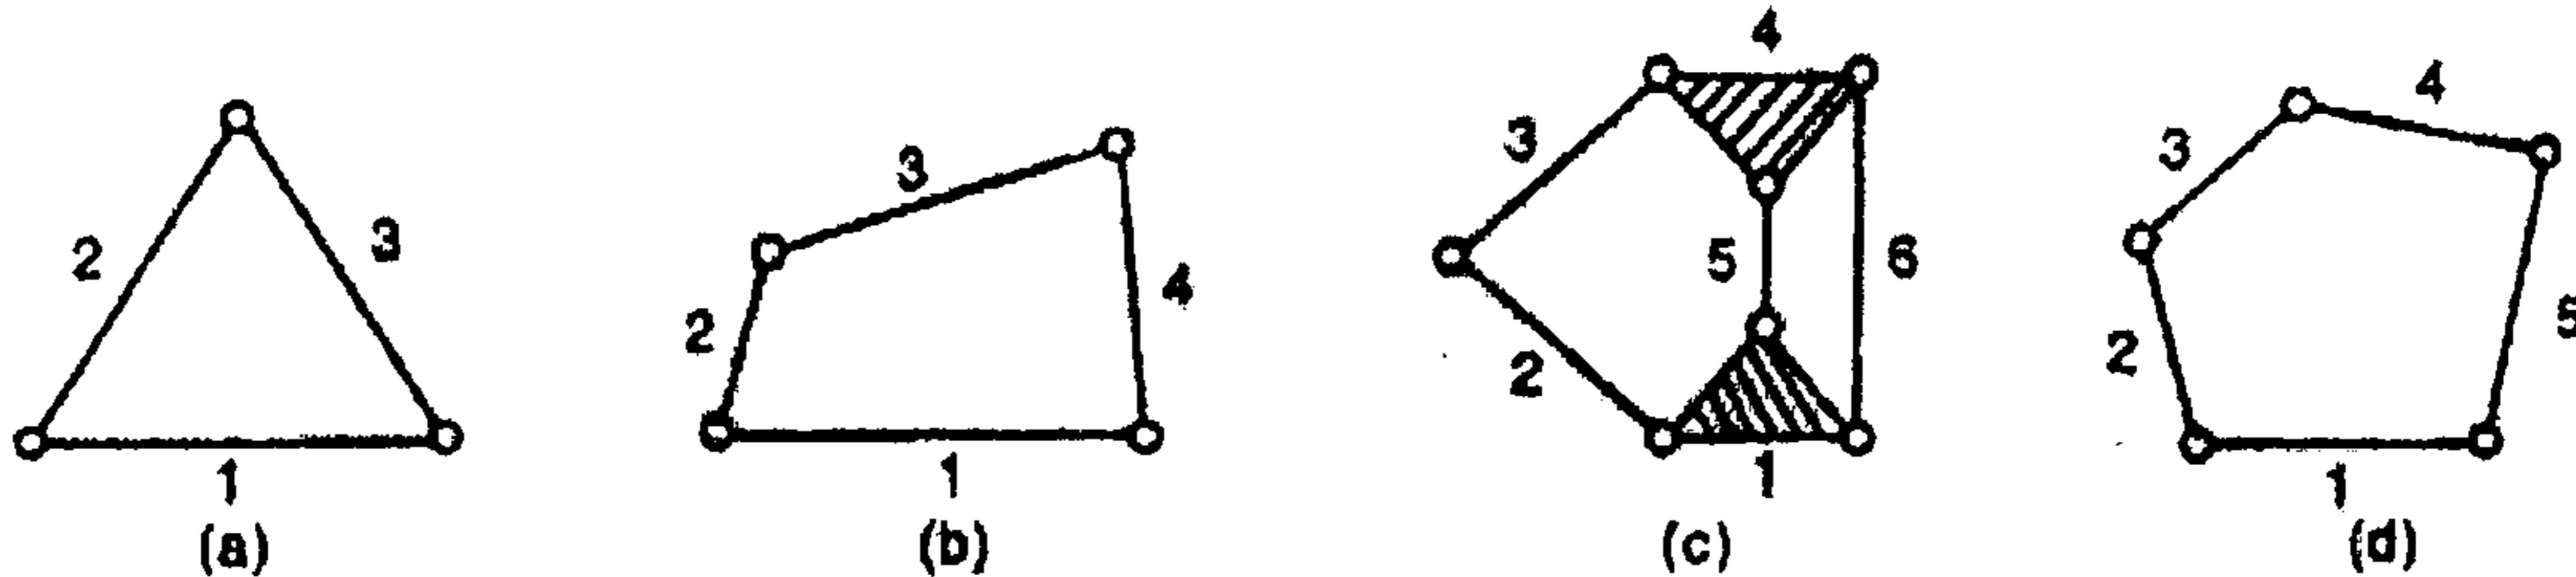

Figure 1 Kinematic chains
11. i) Examine the chains shown in Figure 1 below and indicate whether these are kinematic chains or not. 12